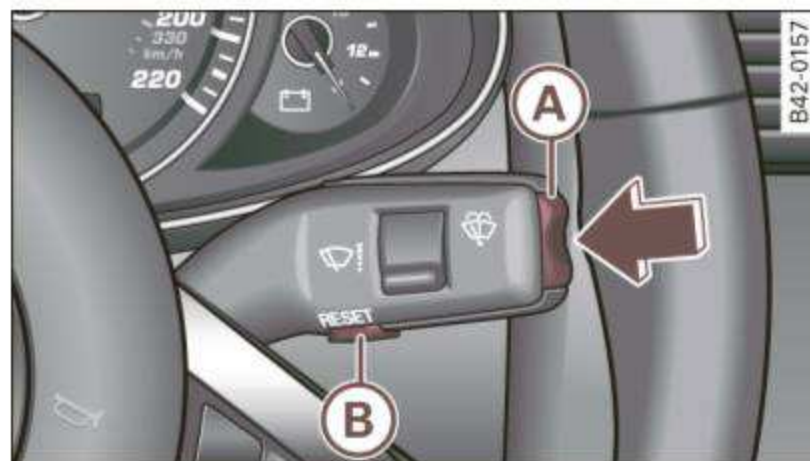

Fig. 11 Wiper arm/wiper lever: controls for the trip computer
You can switch between the trip computer 1 and 2 by pressing the **Reset** button **(B)** ⇒ page 26, fig. 11.
- Push in the upper (lower) protrusion on the function selector switch **(A)** ⇒ fig. 11. The functions for the trip computer are displayed in succession on the respective memory levels.